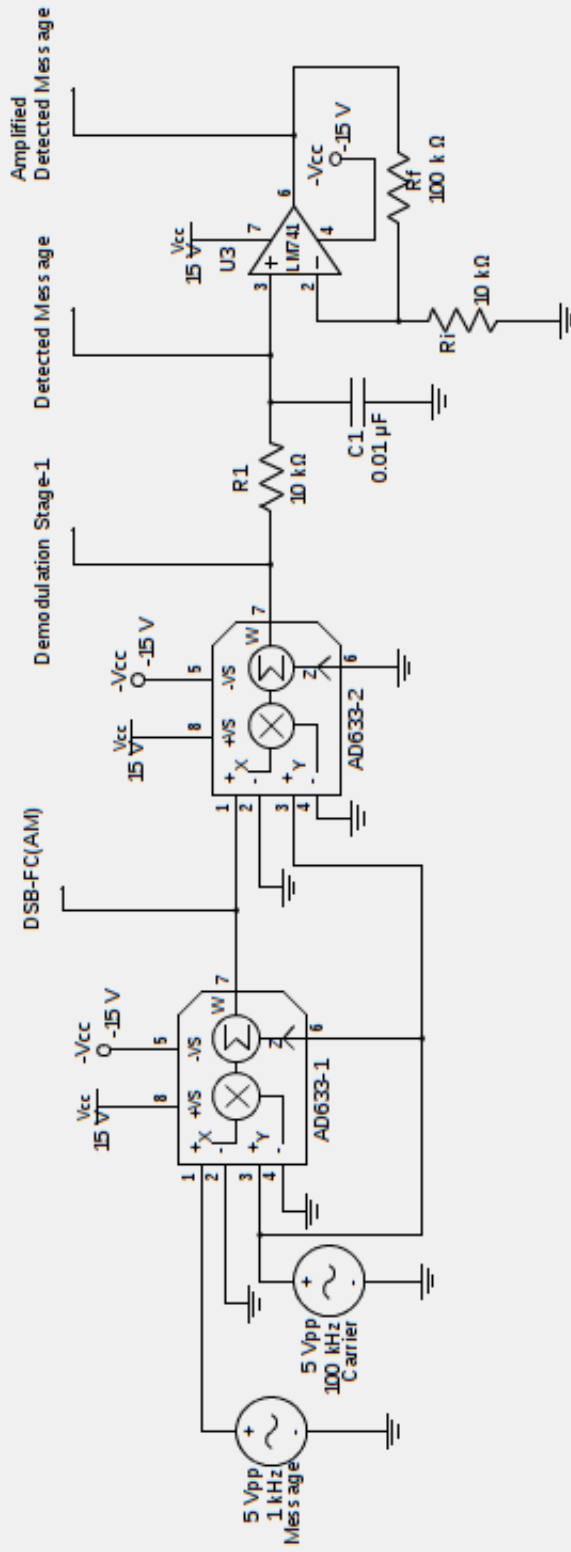

Figure 7.1: Circuit for AM generation and detection using AD633 multiplier IC
The circuit diagram for generating AM(DSB-FC) and demodulating it using AD633 multiplier IC as shown in Figure. 7.1.
- Make connections as shown in the circuit diagram, figure 7.1.